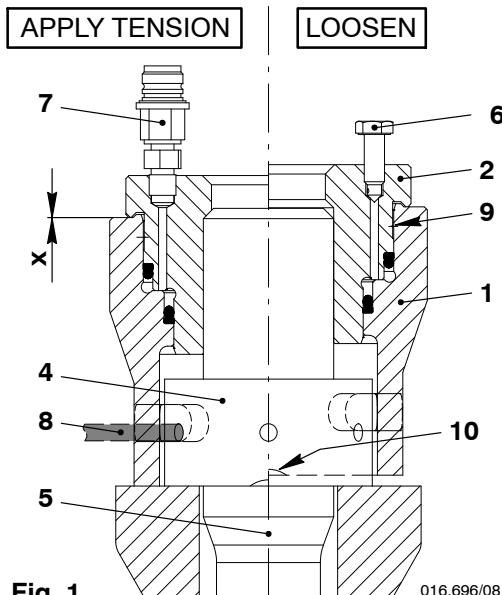
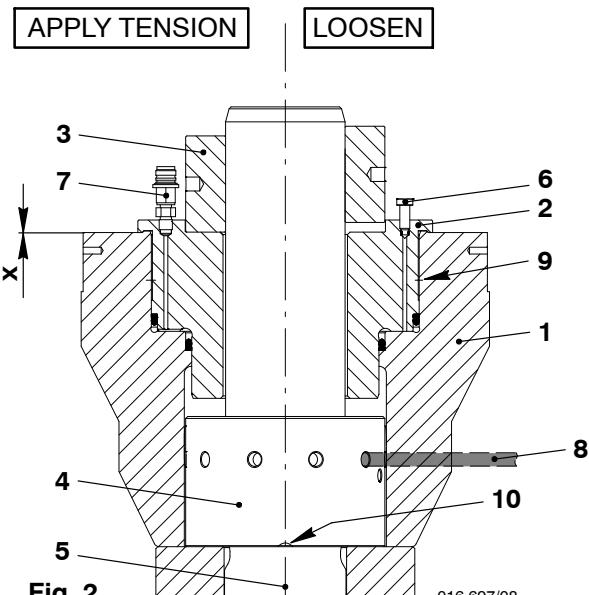

Fig. 1
Fig. 2
- Version 1 – the piston 2 is attached directly on to the elastic bolt / elastic stud 5 (see Fig. 1).
- Version 2 – the nut 3 is used to apply tension to the elastic bolt / elastic stud (see Fig. 2).
- 4) Fully tighten the high pressure (HP) hoses to make sure that the built-in non-return valves can operate.
- 1) Make sure that the vent screw 6 is open (see Fig. 1).
- 1) Make sure that the vent screw 6 is open (see Fig. 2).
- 1) Turn the round nut 4 fully down (Fig. 1 and Fig. 2). Make sure that there is no clearance at the slot 10.
- 1) Make sure that the vent screw 6 is open (see Fig 1).